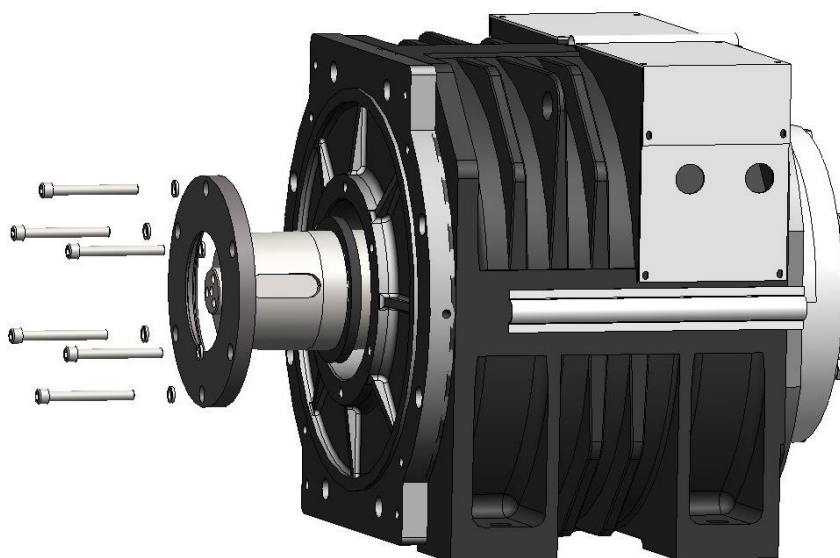

Figure 73: Outer cover removal
4. Loosen the bolts M12x105 (6 pieces) with hex wrench (10mm), and take off the Outer cover. See Figure 73.